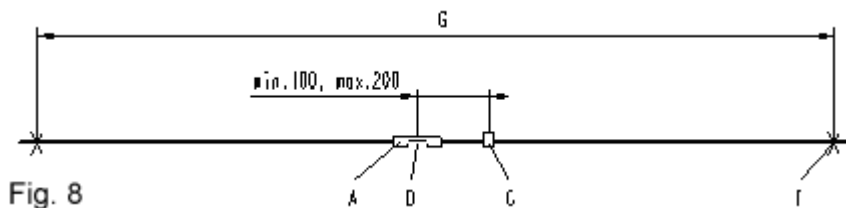

Fig. 8
- At least on one side for galvanic separation on both sides from min. 100 mm up to max. 200 mm (see fig. 8) one additional hanger clamp is to be planned, if the bracket is not mounted on the web, consider the assembly height.
- Does the bracket not lie directly on the conductor/running rails, install a hanger clamp at least on one side, in case of galvanic separation on both sides, at a distance of min. 100 mm, max. 200 mm (fig. 8).